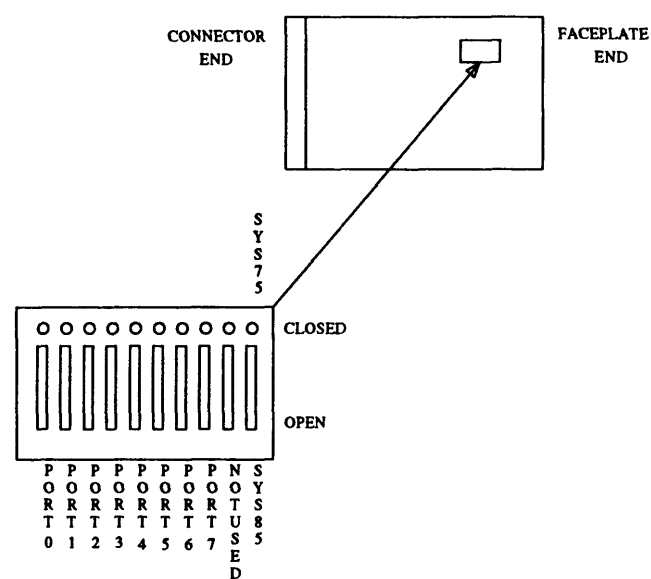

Figure 32-39. Switch Location and Description (MADU)
Before connecting the MADU, it should be removed from the mounting and the options verified or set as required. The option information is given in figure 32-39 and table 32-10. After the options are set, the MADU circuit pack should be reinserted into the housing.
Before installing the MADU circuit pack, verify or set the options. The option information is given in figure 32-39 and table 32-10. The hinged front cover must be opened to install the circuit packs. To help facilitate cable installation, the circuit packs should be installed from right to left. After all the circuit packs are installed, close the front gate.
2. This adapter is required when pin 25 on the host computer is used to busy out a port. The wiring information for the RS232 adapter is shown in table 32-13. The option switch for that port must be properly set. (See figure 32-39 and table 32-10 for switch location and settings.)